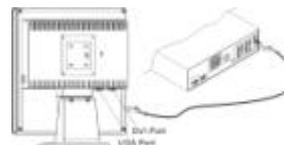

Figure 1-5
2. Connect one end of the signal cable to the LCD Monitor's VGA port or DVI port.(For AL712/AL713)(See Fig 1-5)